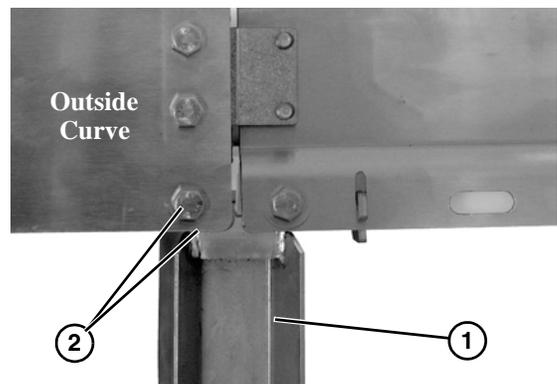

Figure 8
3. When attaching stand (Figure 8, item 1) to curved section on outside curve, make sure mounting hole on stand is to the inside of curve section and head of bolt is on the outside of curve section (Figure 8, item 2).